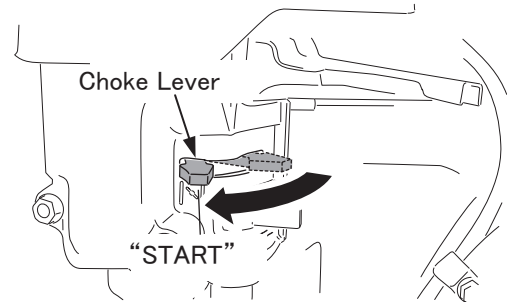

Fig.19
6. In cold weather or when the engine does not start easily, set the choke lever to the "Start" position. This is not necessary when the engine is already warmed up. (Fig.19)